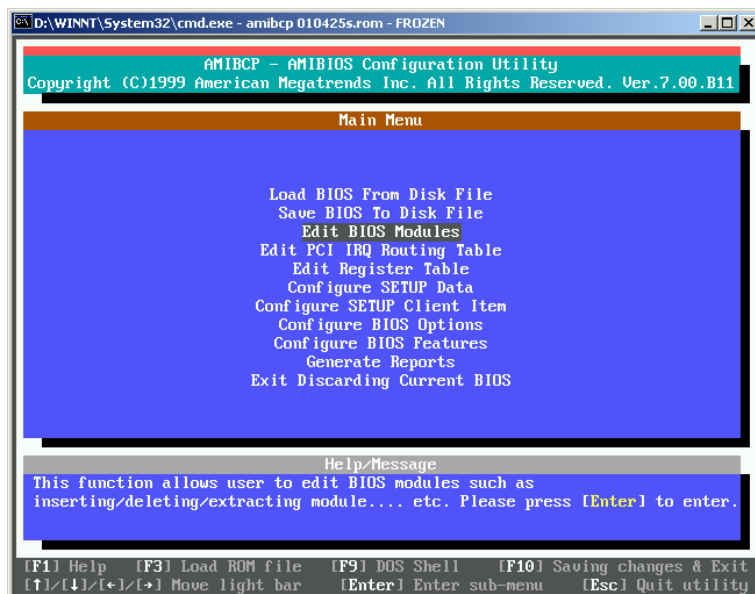

FIGURE 5.1: AMI BIOS program options
- Load BIOS file into AMI program by typing `AMIBCP mybios.bin`. You should then see something like Figure 5.1,
The description here assumes that a parallel port interface is to be used for the LCD. Appendix C describes the pinout of the parallel connector and Appendix D describes the pinout for a typical  $4 \times 20$  display. If you are using `lcd4linux`, wire up the unit as described in Figure 5.1. `LCDproc` requires a slightly different wiring for the enable signals; but it should be trivial to modify this in software.